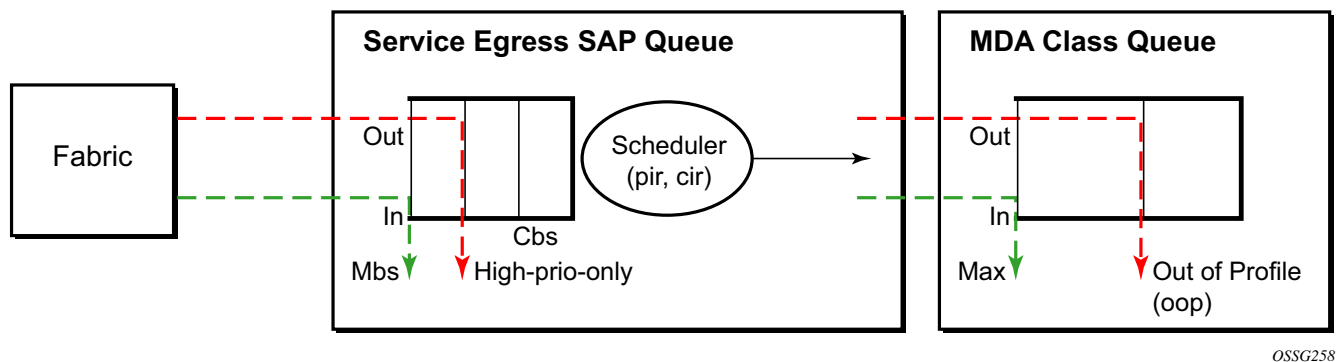

Figure 6: MLPPP Class Queue Thresholds for In-Profile and Out-of-Profile Packets
Table 11 and Figure 6 provide the details of the class queue threshold parameters. Packets marked with a high drop precedence, such as out-of-profile, by the service or network ingress QoS policy will be discarded when any class queue reaches the OOP threshold. Packet with a low drop precedence marking, such as in-profile, will be discarded when any class queue reaches the max threshold.
6. The maximum size for each MLPPP class queue in units of msec at the available bundle rate is configured in the egress QoS profile. This is referred to as max in Figure 6 and as max-queue-size in CLI. The out-of-profile threshold for an MLPPP class queue, referred to as oop in Figure 6, is not directly configurable and is set to 50% of the maximum queue size rounded up to the nearest higher integer value.